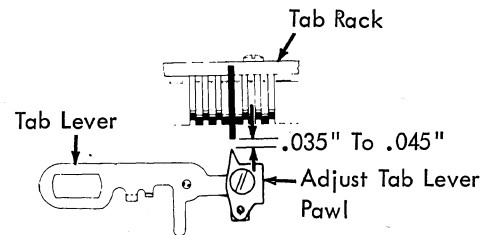

FIGURE 163. Tab Lever Pawl
5. Tab Lever Pawl (Fig. 163) - Adjust the pawl forward or back on the tab lever so that the tip of the pawl clears a set tab stop by $.035''$ to $.050''$. This adjustment should be checked on the left, center, and right of carrier travel.